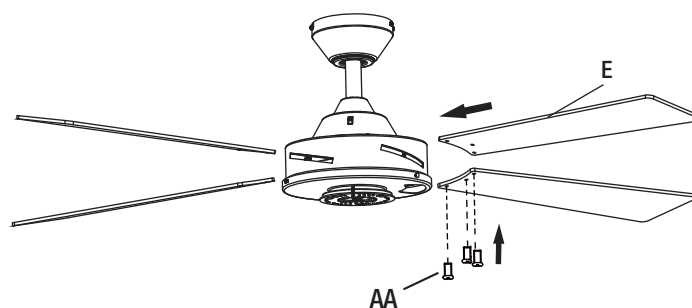

Figure 14
- Insert a blade (E) through one of the slots of the bottom band.
- Secure the blades to the motor using the blade screws (AA) provided - 3 each per blade (Figure 14).